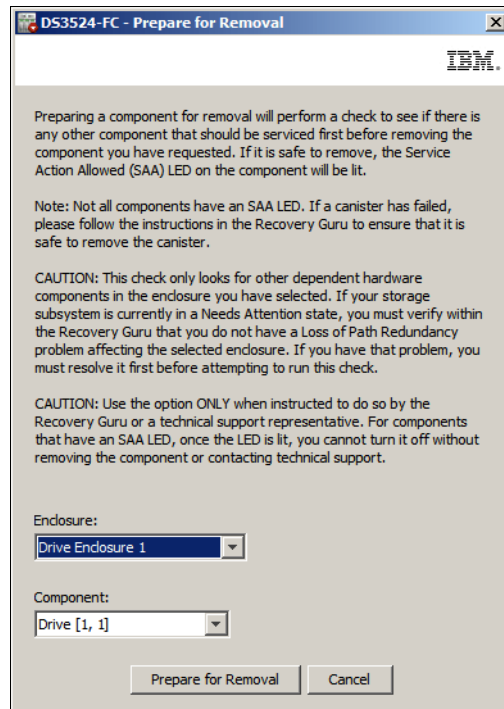

Figure 14-124 Prepare for removal
1. To access the software tool, click **Advanced** → **Troubleshooting** → **Prepare for removal**. The window shown in Figure 14-124 on page 409 will open.